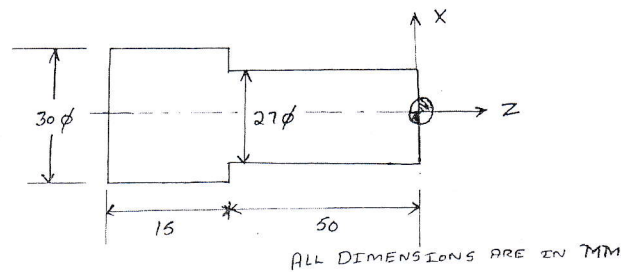

Fig.Q7(b)
b. List few G and M codes you came across and write a program to cut the profile shown in Fig.Q7(b).